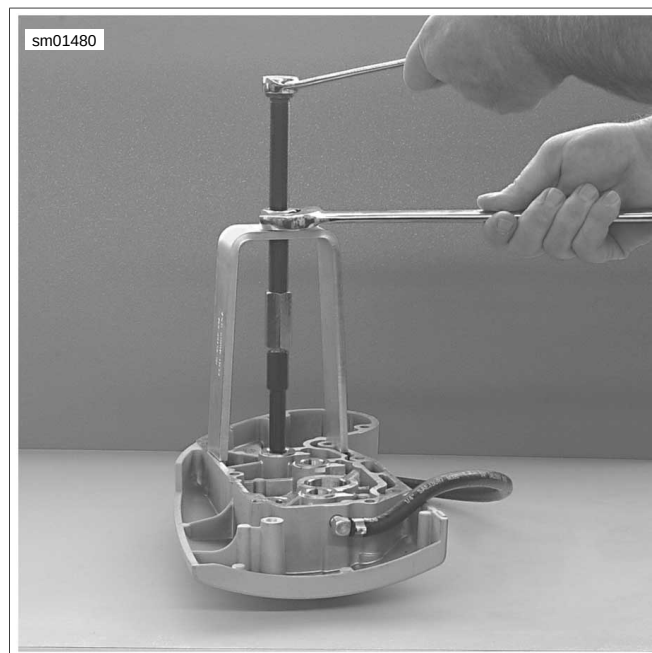

Figure 3-107. Removing Cam Bushing from Gearcase Cover
- See Figure 3-107. Use BUSHING AND BEARING PULLER (Part No. HD-95760-69A) to remove bushings from gearcase cover and crankcase.